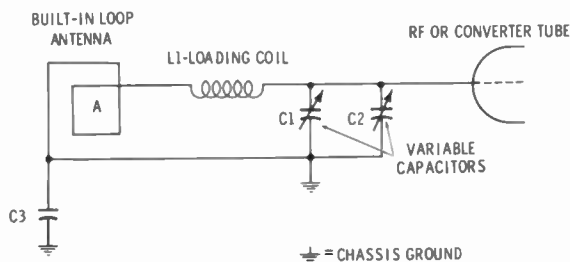

Fig. 3-5 Method of directly-coupling the antenna to first RF tube.
Another method (and cheaper) is *direct coupling*, as shown in Fig. 3-5. Here, the antenna signal goes through a *loading coil* directly to the control grid of the first tube. The tube can be either an RF amplifier or a converter tube, depending on the design of the set.
The flat loop antenna usually does not have a high enough inductance (a measure of its magnetic value in a circuit) to match the capacitors that are wired in parallel to it. Fig. 3-5 shows that this antenna circuit is actually a tuned circuit; it is tuned to the resonant frequency of the radio station being tuned in.
The antenna loop (A) and coil (L1) (Fig. 3-5) are in series, and their total inductance forms the inductive (coil) half of the tuned circuit. By using a loading coil, many types of antenna loops can be incorporated into the circuit.
The favored type of built-in antenna for many years was the flat loop that was built into the back cover of most table-model radios. A representation of this type appears in Fig. 3-5. This antenna has a reasonably high gain for receiving local broadcast stations and is highly directional; that is, it produces the strongest signal when the radio and the antenna are facing in one particular direction. This is both an advantage and a disadvantage. When the radio is turned in the appropriate direction, the antenna has a great deal of gain. The disadvantage is that when changing